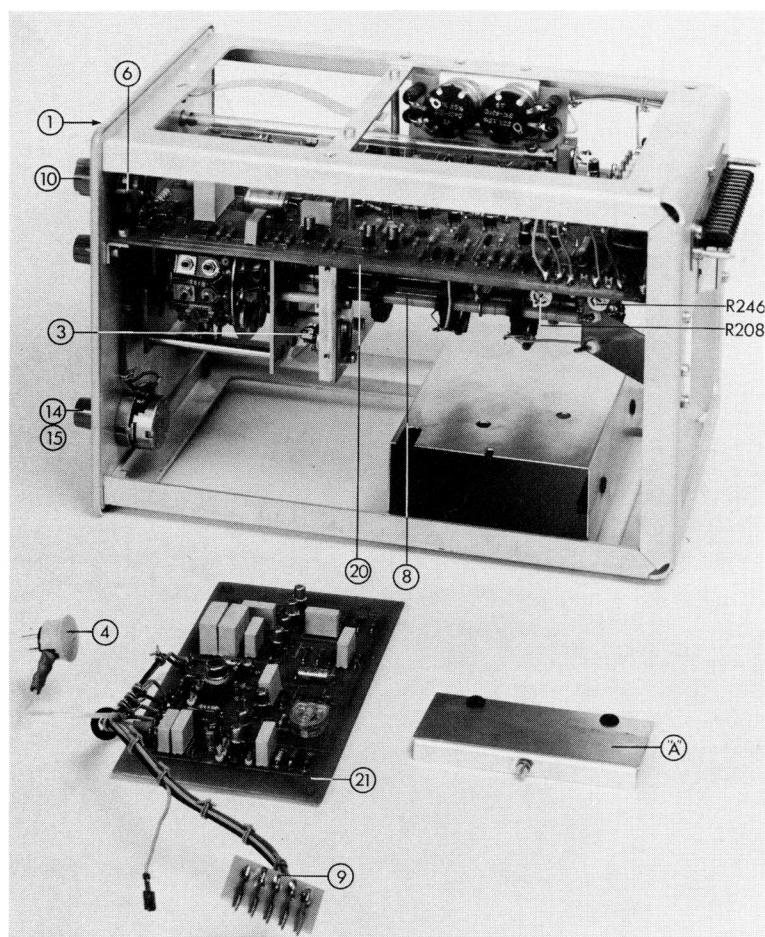
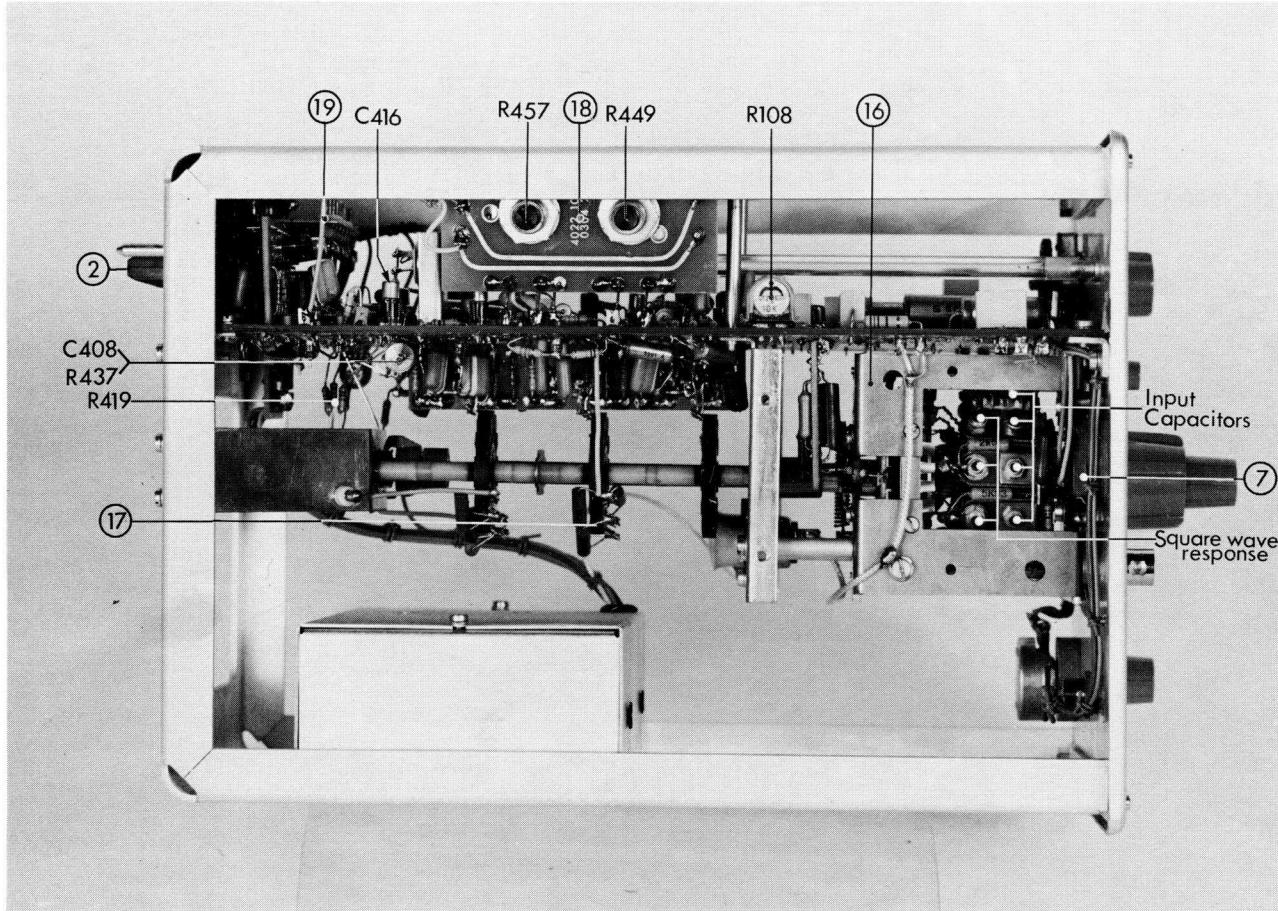

Fig. 15. Right hand side of amplifier
Fig. 16. Left hand side of amplifier
*The chopper amplifier may be removed from its housing after the withdrawal of lid "A" (Fig. 15) a five-pole plug, a three-pole plug and a single-pole plug. If measurements are made while the chopper amplifier is out of its housing, adequate screening precautions should be taken to avoid hum.*
##### R108 (Fig. 16)
##### R246 (Fig. 15) R449, R457 (Fig. 16)
- R208 (Fig. 15), C408, C416, R437 (Fig. 16).
- Unsolder R419 (Fig. 16) at the side of the potentiometer R2 and apply a square wave voltage with a rise time of about 1 ns via a terminated  $50 \Omega$  cable. For a 4 cm deflection the amplitude must be about 200 mV.